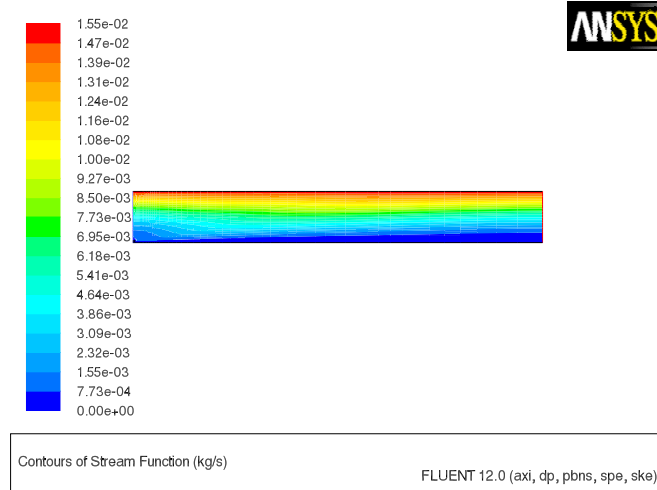

Figure 14.7: Contours of Stream Function—Variable C_p
5. Display filled contours of stream function (Figure 14.7).